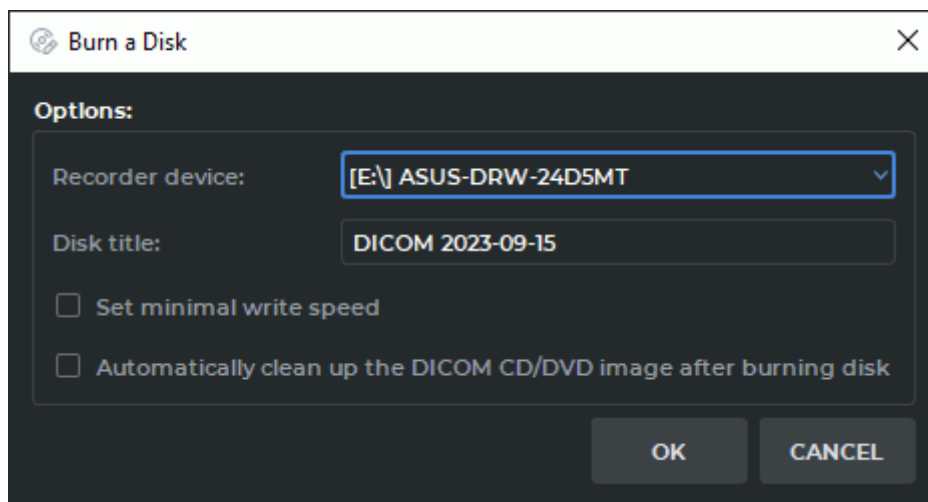

Figure 14.3: Writing parameters
1. Click the **Burn created DICOM CD/DVD image to the optical disk**  button on the Disk Creator toolbar. The window shown in Fig. 14.3 will pop up.